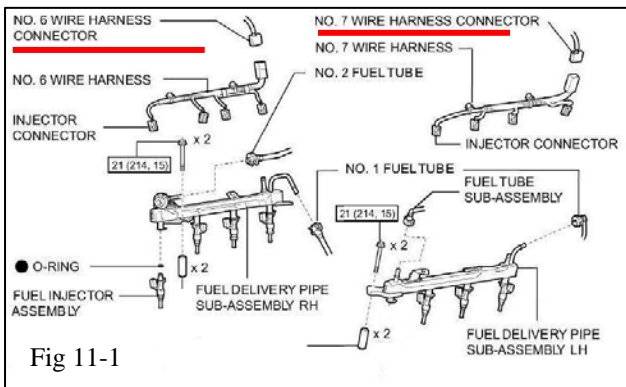

Fig 11-1
- (a) Unplug the No. 6 and No. 7 wire harness connectors from the RH and LH fuel rail harnesses (Fig 11-1).